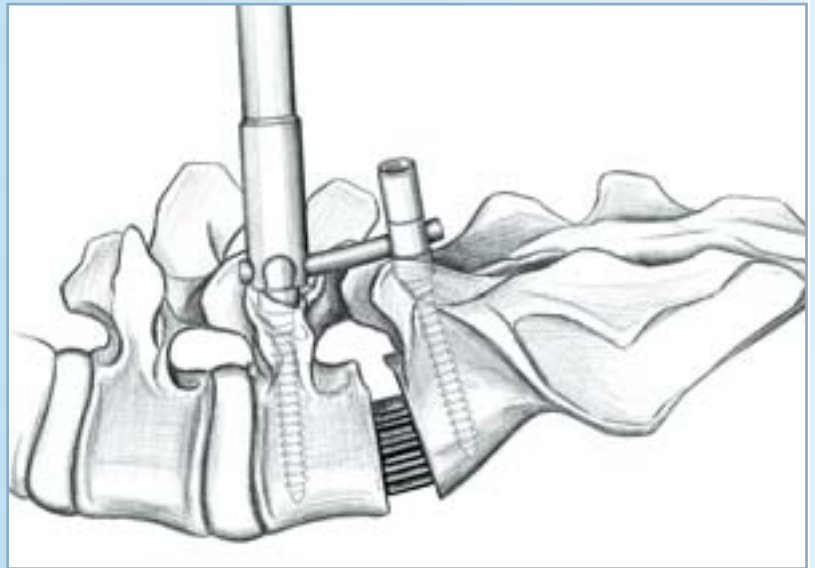

Fig. 19: Placement of the counter-torque L-handle
- Repeat this process until all sets screws SW790T are tightened (Fig. 19).